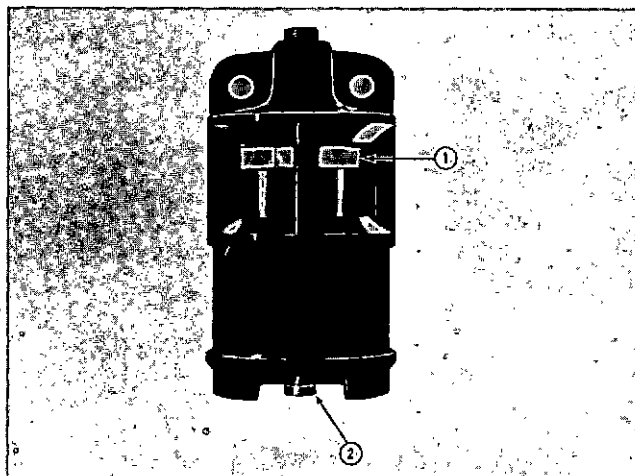

Fig. 5-24. Air inlet restriction gauge
A mechanical restriction gauge is available to indicate excessive air restriction. This gauge can be mounted in air cleaner outlet or on vehicle instrument panel. The gauge shows completely red in indicator window (1, Fig. 5-24), plunger (2), when restriction reaches 20 in. [508.0 mm] of water.